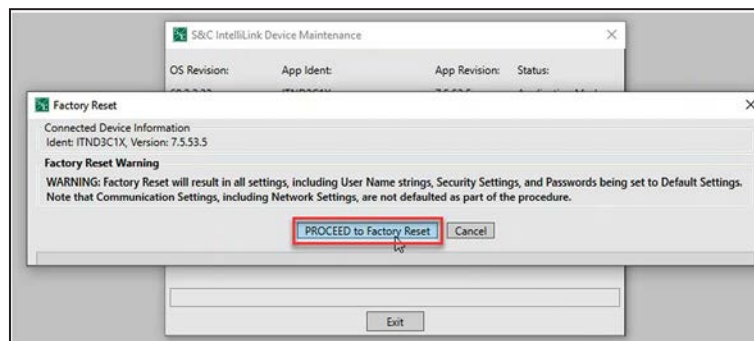

Figure 131. The Proceed to Factory Reset button.
STEP 4. Click on the **Proceed to Factory Reset** button when prompted. See Figure 131.